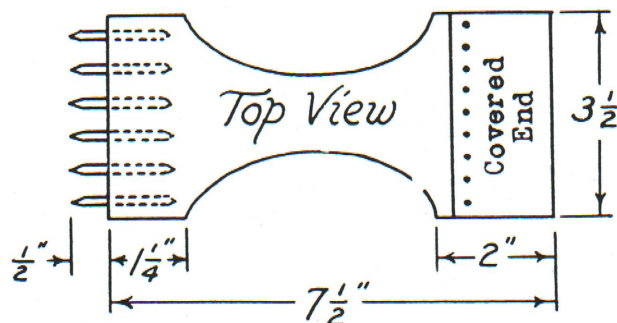

Fig. 3—Homemade webbing stretcher.
2. Webbing stretcher—buy or make (optional). Make from $\frac{1}{2}$ " hard wood as shown in Fig. 3. Drive ten-penny nails in one end. Cut off heads and file to tapering points. Cover the other end with felt, rubber, or leather.